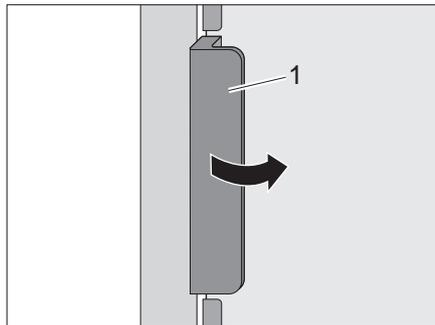
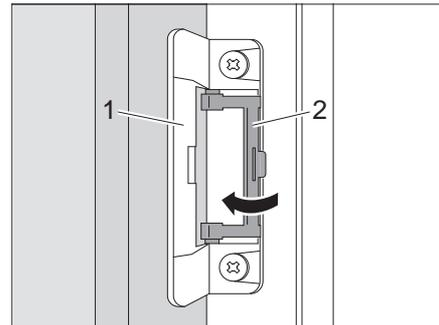

Fig. 149 Opening the refrigerator door
Fig. 150 Locking the ventilation position
- Open the refrigerator door at the handle (Fig. 149,1). The locking mechanism (Fig. 150,1) is released automatically.
- Fold open the latch (Fig. 150,2).